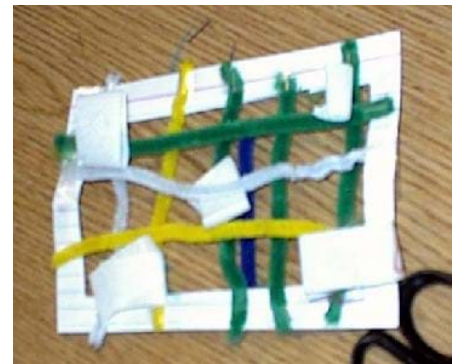

Figure 3. Example filter to be used in the filter testing apparatus.
1. Give the groups one entire period to build their prototype air filters and time to test them at least once. Students will probably have to test them several times to optimize and adjust the filter, so use two class periods to build if necessary. If needed, students are allowed to redesign their filter. Remind them that engineers often redesign to improve something several times before they test and finally use the finished product. See Figure 3 for a sample filter.